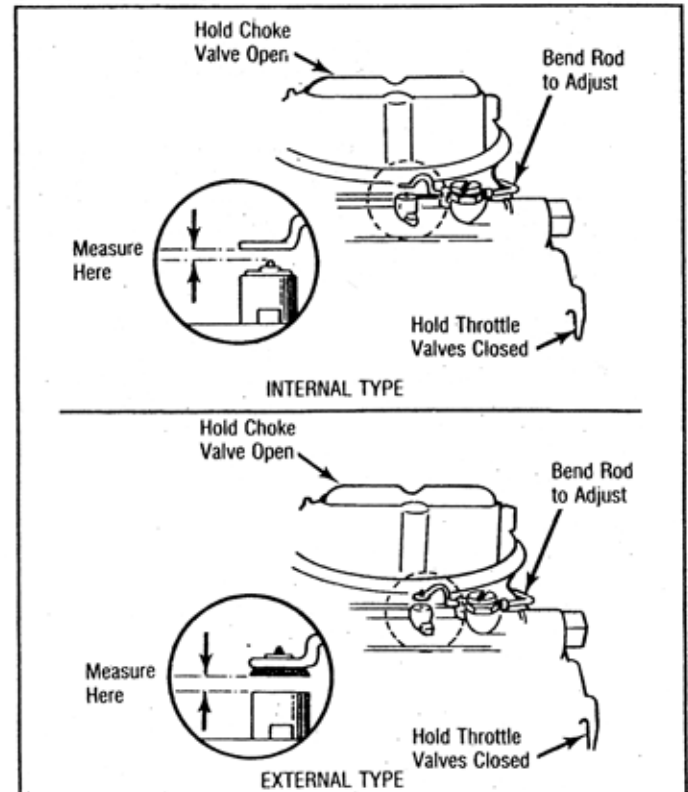

Fig. 8 Bowl Vent Valve Adjustment
1. Hold choke valve wide open. Close throttle valves, making sure throttle lever is against stop screw. See Fig. 8.